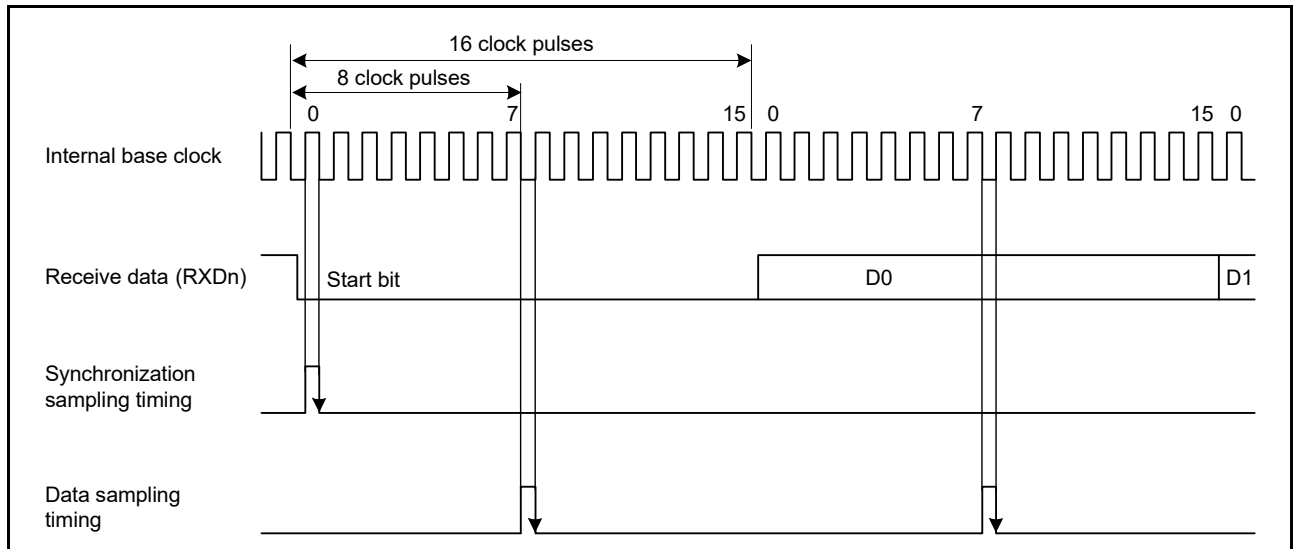

Figure 27.3 Receive data sampling timing in asynchronous mode
Because receive data is sampled on the rising edge of the 8th pulse\*1 of the base clock, data is latched at the middle of each bit, as shown in Figure 27.3. The reception margin in asynchronous mode is determined by the following formula (1):